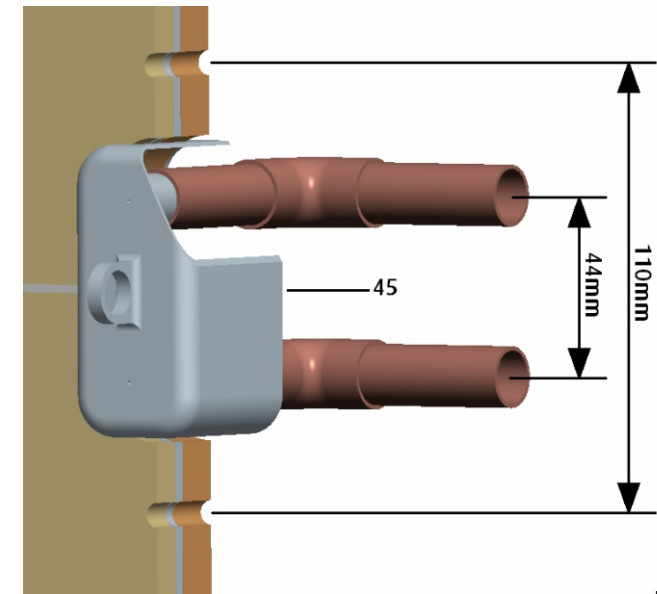

Fig. 3
4.2.1.3 Use plastering shroud (45) as a guide to finish wall (see Fig.3 below). The shroud will also assist in maintaining required pipe centres of 44mm.